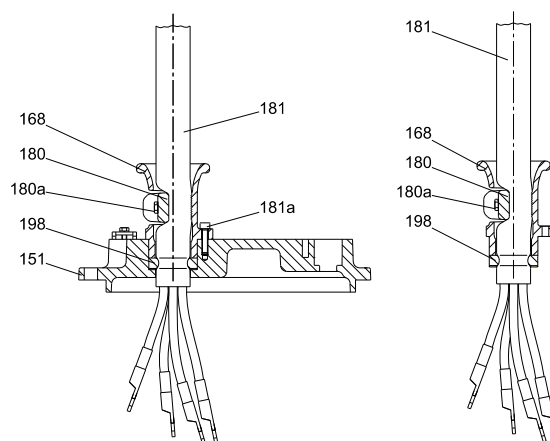

Fig. 12 Cable entry without adapter flange attached to motor top cover (left) and cable entry (right)
1. Remove the screws (180a). See fig. 12.
2. Remove the cable clamp (180).
5. Remove the cable entry (168) including the rubber seal (198) from the cable (181).
6. Remove the rubber seal (198) from the cable entry (168).